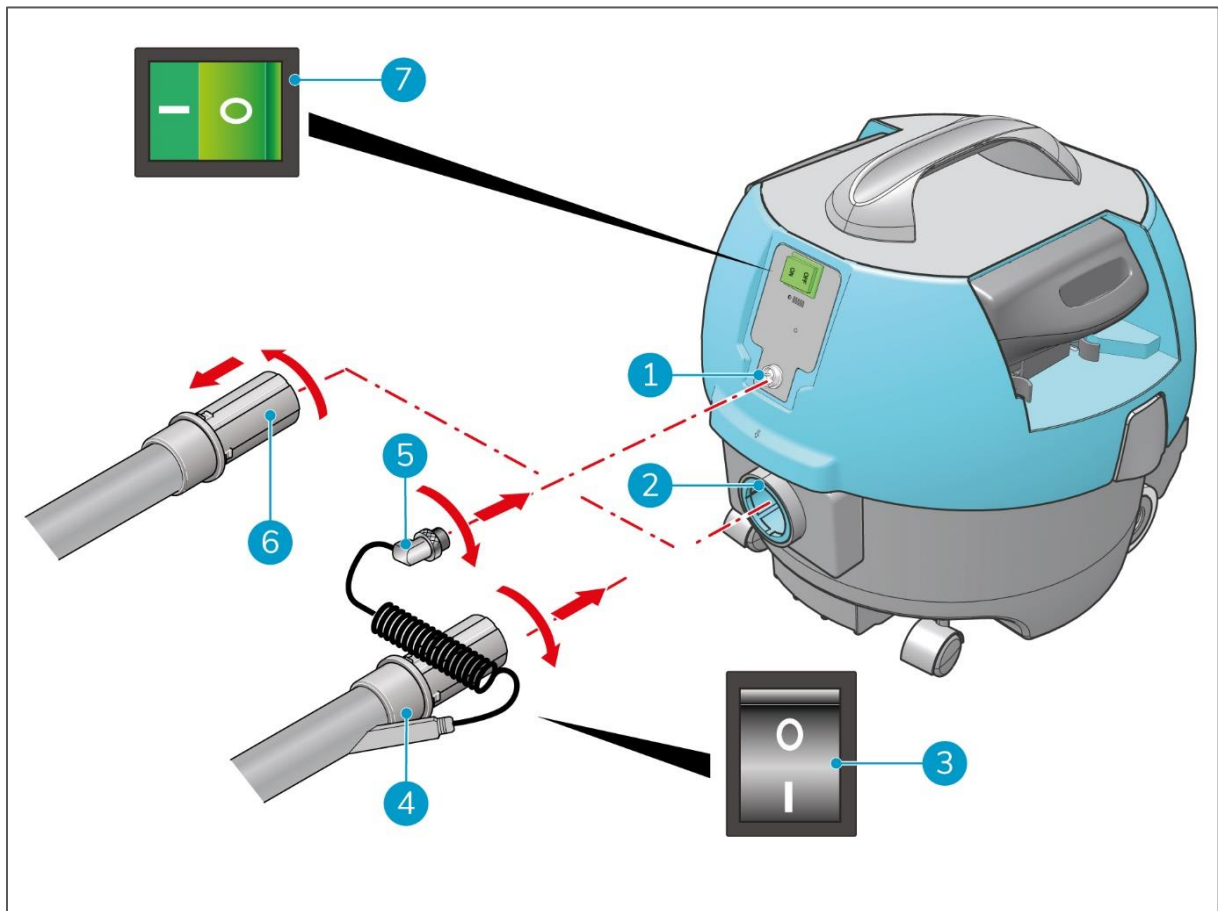

Figure 20
1. Turn the hose of the standard equipment counterclockwise (Figure 20, pos 6).
3. Insert the hose of the i-brush (Figure 20, pos 4) into the hose connector (Figure 20, pos 2).
5. Push the plug from the i-brush (Figure 20, pos 5) onto the connector on the i-vac 9B (Figure 20, pos 1) and tighten the ring of the plug.
6. Press the ON/OFF switch (Figure 20, pos 7) to turn on the i-vac 9B.
7. Press the ON/OFF switch (Figure 20, pos 3) to turn on the i-brush.
1. Press the ON/OFF switch (Figure 20, pos 3) to turn off the i-brush.
2. Press the ON/OFF switch (Figure 20, pos 7) to turn off the i-vac 9B.